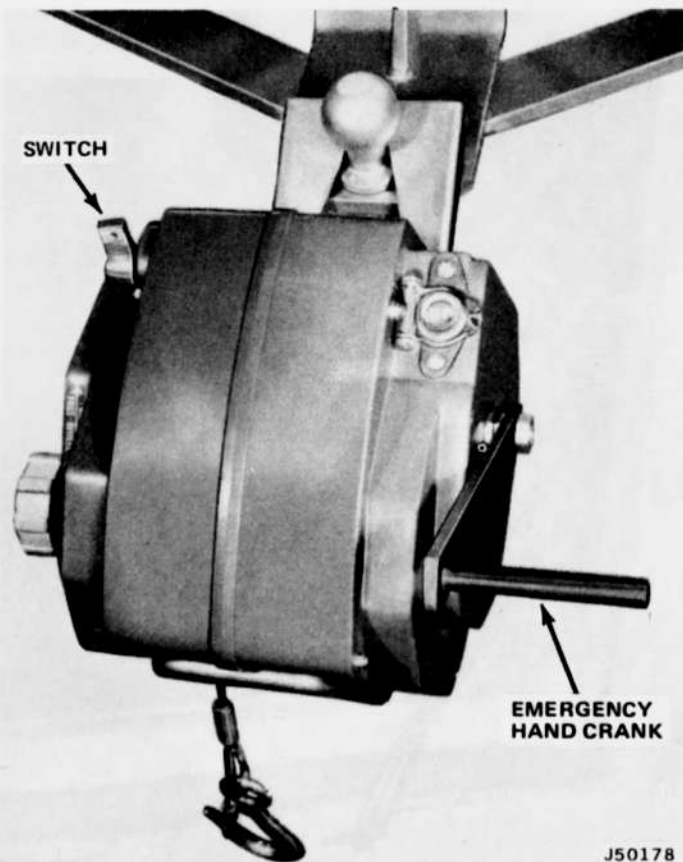

Fig. 5-36 Electrical Cable Routing and Storage—Typical
(4) Attach ground terminal of cable to vehicle frame with 5/16-inch bolt and locknut. Be sure connection is clean and tight.
(5) Draw male plug and excess cable up through any convenient opening to store inside vehicle (fig. 5-36). When ready to use winch, remove cable and insert male plug into female socket on winch.